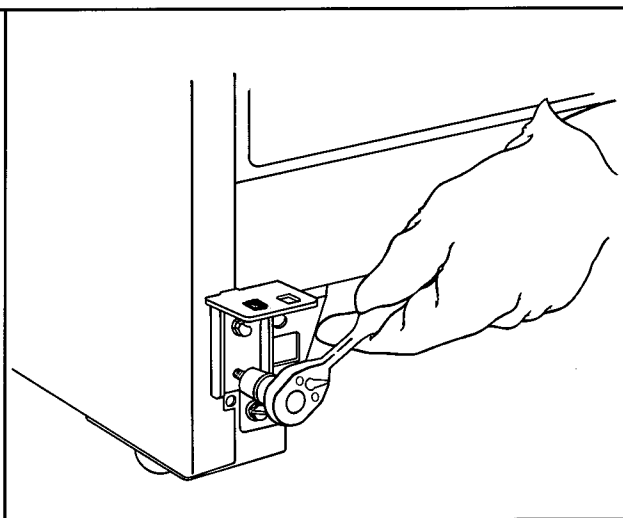

Figure 37
- c. Tighten original 3/8" hex head screw with ratchet. See Figure 37.